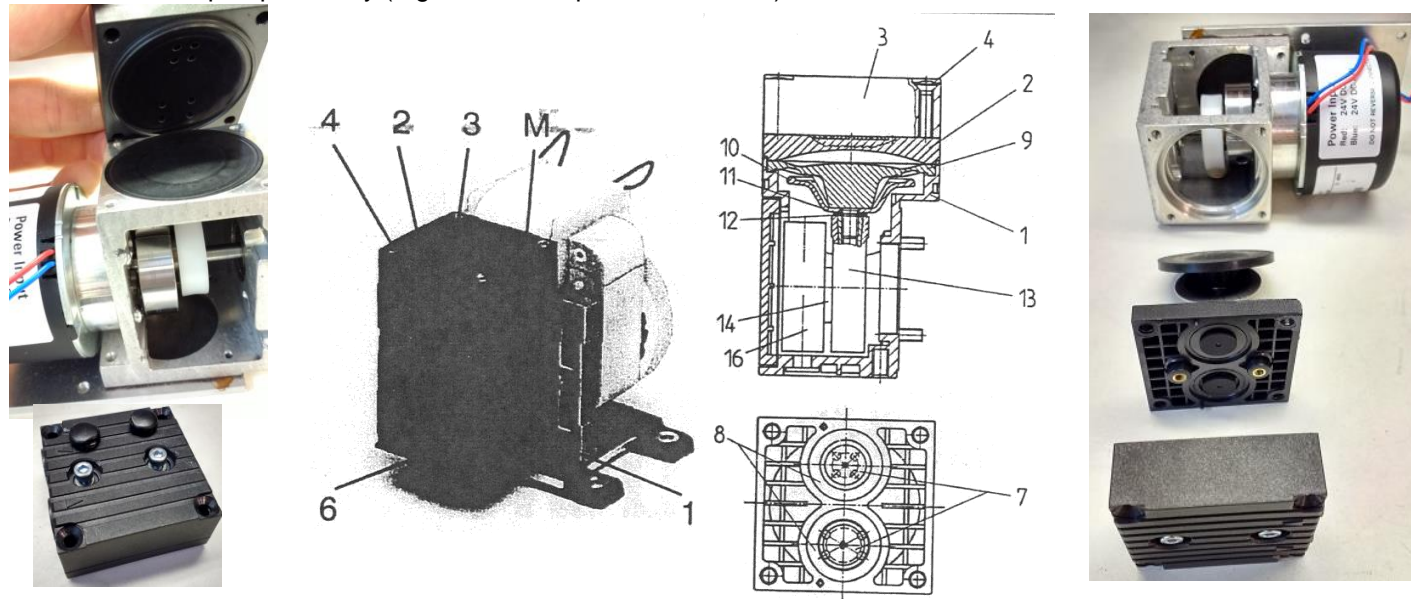

Figure 16: Pump Head Removal
4. Remove the pump head by (Figure 16: Pump Head Removal):
- a. Making a mark (M) on the head plate (3), intermediate plate (2), and housing (1) with a felt-tip pen.
- b. Undoing the 4 screws (4) in the head plate and lifting the head plate, with the intermediate plate, off the pump housing.
- *DC motors (no cooling fan):* Removing the cover (6) from the pump housing (1) by inserting a screwdriver into the slots on the sides, and prying the cover off (with care the adhesive gasket between cover and housing may be reused).
- *No fan:* Reference is made to turning or holding the cooling fan, the necessary operations must be carried out by turning or holding the counterweight (16).
5. Change the diaphragm by (see Figure 16: Pump Head Removal):
- a. Turning the fan to bring the structured diaphragm (9) to top dead center.
- c. Taking the disc spring (12), diaphragm spacer(s) (11), and diaphragm support (10) off the threaded portion of the diaphragm and retaining them.
- f. Turning the fan until the connecting rod (13) is at top dead center.
- 6. Change the valve plates by (see Figure 16: Pump Head Removal):
- a. Separating the head plate (3) from the intermediate plate (2).
- b. Removing the valve plates (7) and sealing rings (8) from the intermediate plate.
- 7. Refit the pump heads by (see Figure 16: Pump Head Removal):
- h. Placing the intermediate plate (2), with valve plates (7), sealing rings (8), and head plate (3) on the housing, in the position indicated by the (M).
- j. Gently tightening the screws (4), evenly and diagonally.
- m. Tightening the screws (4).
- n. *For DC versions (no cooling fan):* Reattaching the cover (6) to housing (1).